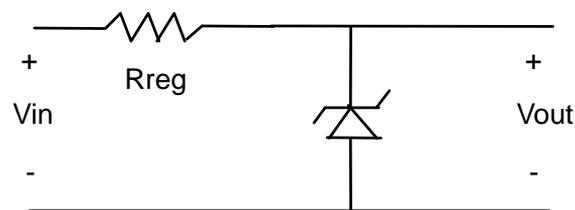
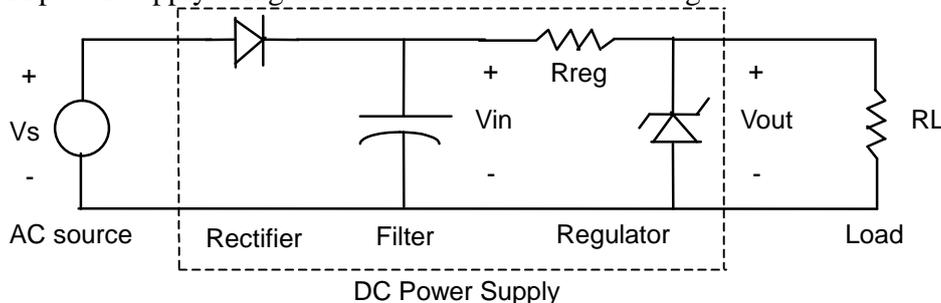

Fig. 4. Zener voltage regulator
Fig. 5. Basic power supply consisting of a rectifier, filter, and regulator.
A DC power supply provides constant DC voltage to a load, which can be modeled as a resistor. Ideally the constant DC output should be independent of the load and input voltage fluctuations. In an actual power supply, however, when a load is applied to the output (as in Figs. 1 and 2), the output voltage decreases due to increased current drawn and the increased internal voltage drops. A voltage regulator circuit is used to prevent/limit these output voltage changes. A Zener diode can be used to make a voltage regulator circuit (as shown in Fig. 4) by taking advantage of the Zener diode's reverse breakdown characteristic. Recall that once a Zener diode breaks down, its voltage remains essentially constant independent of its reverse current. The regulator's resistor, R_{reg} , limits the current through the Zener to reduce the power dissipated in the Zener. This is done, however, at the price of limiting the maximum load current that can be supplied with a regulated output voltage.
A typical DC power supply consists of 3 stages, which are a rectifier, a filter, and a voltage regulator. A power supply using this combination is shown in Fig. 5.
4. Consider a Zener voltage regulator circuit as seen in Figure 4. This circuit can be used to regulate the output of the filtered rectifier circuit to 5.1V (use a 5.1V Zener - 1N751A or equivalent).
- b) Using the value found for R_{reg} in part (a), determine the maximum load (in Amps) that could be supplied while maintaining output voltage regulation. (Hint - draw Fig.4 - the current in will be equal to the maximum voltage in, $6.4*\sqrt{2}/R_{reg}$ because the load resistance will be nearly zero to draw maximum current; the difference between this current and the current absorbed by the Zener will be the maximum current)
5. Simulate your completed power supply designs (Figure 5 for the half-wave rectifier, and the full wave rectifier with regulation circuitry) using SPICE to verify it meets requirements. Use values for R_{reg} and filter capacitor found in 2(a) and 4(a) of the pre-lab, but **round these values to the nearest available values found in your parts kit.**
- d) Add the voltage regulator of Fig. 4 to the circuit (should now look like the circuit in Fig. 5). Use the value of R_{reg} from the SPICE simulation in part 5 of the pre-lab. Record the output voltage waveform for a full load equal to 2.2 k Ω .